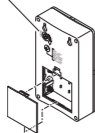
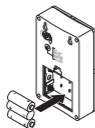

Figure 2
Figure 3
2. **Install 3 alkaline “AA” batteries.** Press in latch on rear of chime and lift off battery cover (see Figure 2). Install 3 alkaline “AA” batteries (not included) into chime. Make sure batteries are installed according to the diagram inside the chime (see Figure 3). Replace battery access door onto back of chime.
4. **Adjust volume control to desired volume** (see Figure 2).